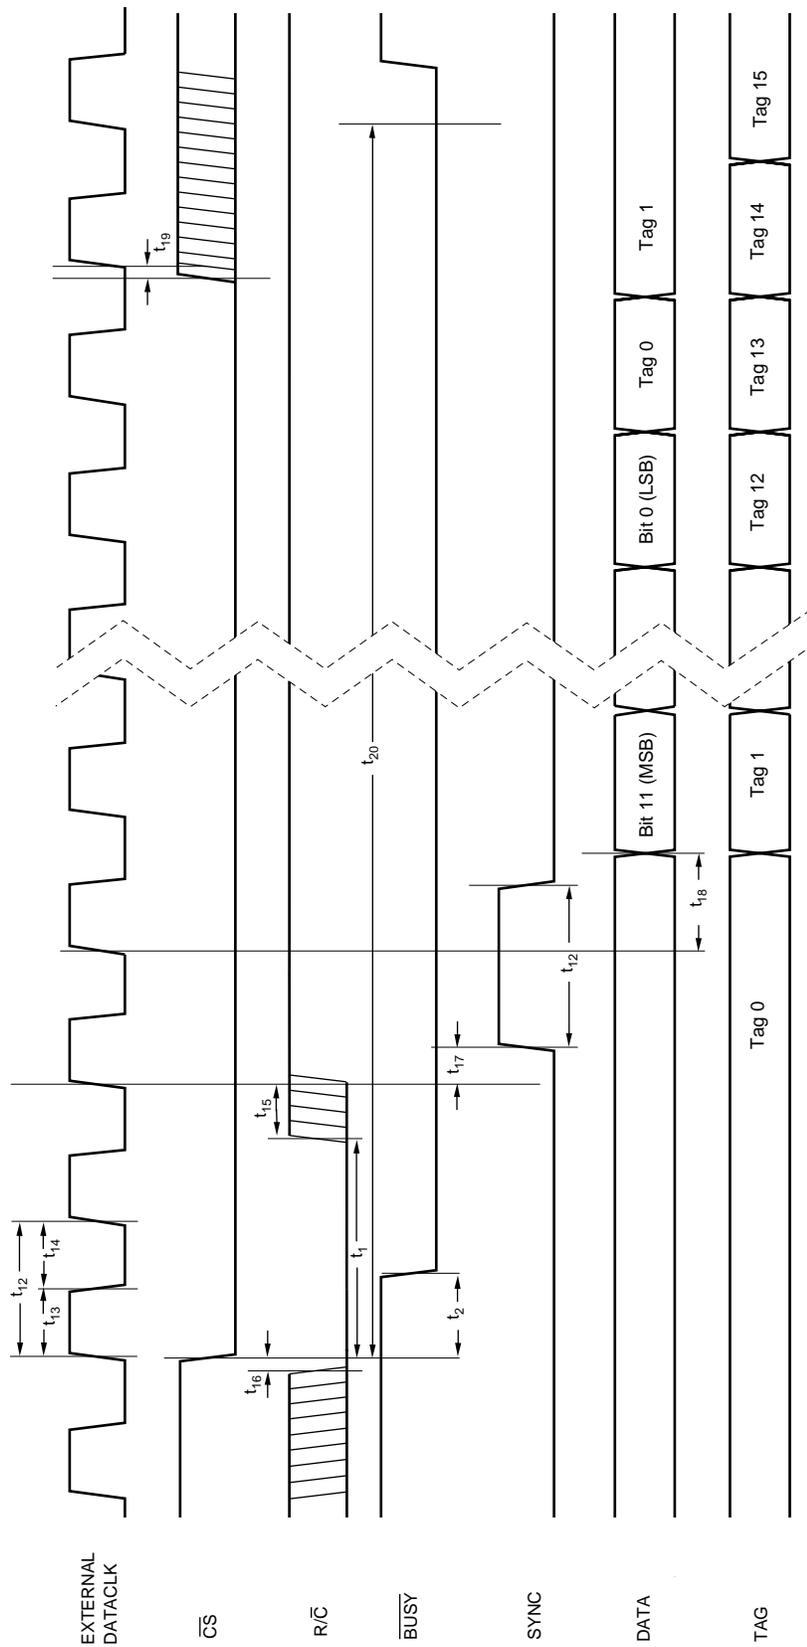

FIGURE 3b. Conversion and Read Timing with External Clock. (EXT/ $\overline{\text{INT}}$ Tied HIGH.) Read During Conversion (Previous Conversion Results).
NOTE: (1) See Figure 3b for constraints on previous data valid during conversion.